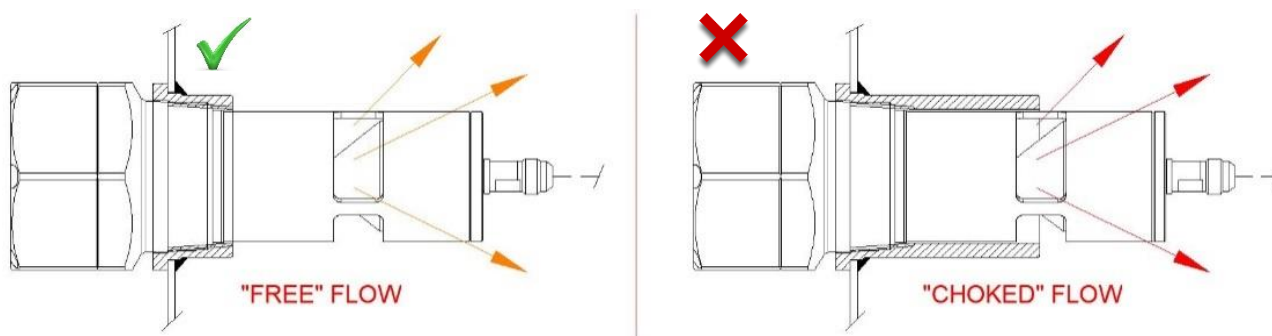

Figure 10 - Do NOT Install Valve Back End within Pipe or Extended Socket
- The outlet (i.e. back end) portion of the Flow Control Valve cannot be installed within a Pipe or some other "extended" socket or extension (>70mm, 2.7") which may impede the flow of diesel fuel from the array of circumferential ports on the forward (upstream) side of the Piston. It is recommended the Valve be installed within a 2" NPT **half** socket (**half** coupling) – refer Figure 10.